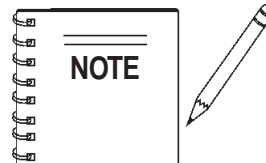

**Figure 11. Engine Oil Dipstick**
3. Check the engine oil level as shown on the dipstick (Figure 11).